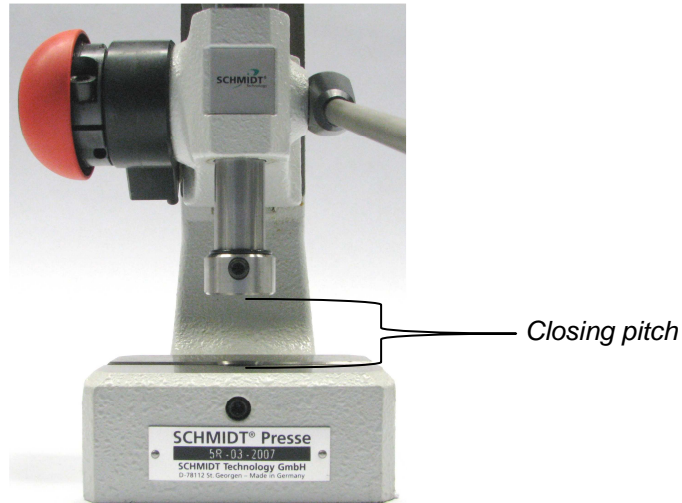

Figure 2
2. Now the closing pitch needs to be adjusted. When reaching the insertion depth the press should drive against a stop in order to prevent the inner webs from being damaged (see figure 2).